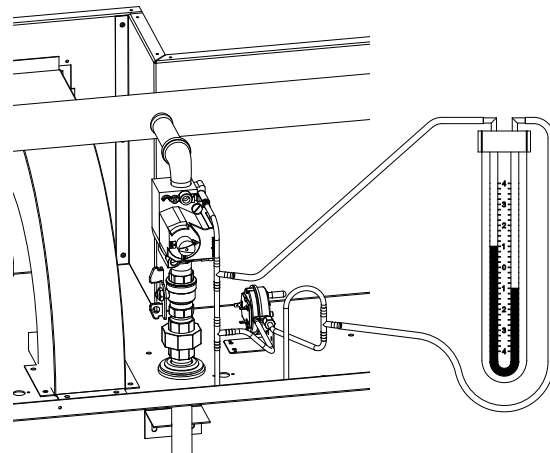

Figure 55 – Combustion Air Adjustment with a Manometer to Set Differential Pressures
Beside the fan duct is an air pressure switch with a large and a small tube delivering pressure from points inside the pool heater (see Figure 55). The pressure in the large tube is the chamber pressure. The pressure in the small tube is the burner pressure. They act together to make the pressure switch. By disconnecting the caps from the tees in the pressure switch hoses and connecting them to either side of a manometer, you can read the differential pressure to the switch.
5. Attach one manometer hose to the barb located on the back of the pressure switch. Attach the other manometer hose to the capped tee barb spliced into the rubber hose running into the combustion chamber (see Figure 55).